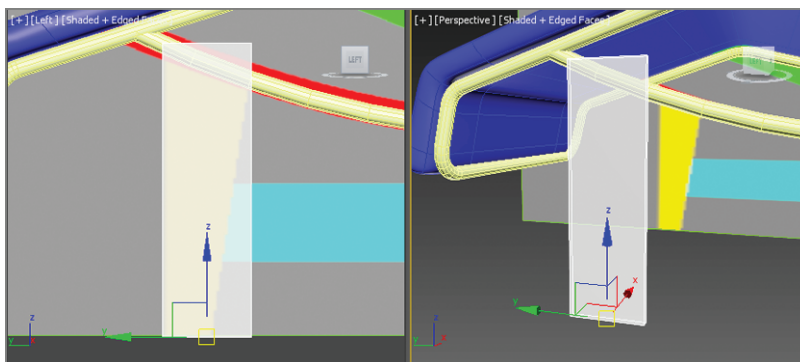

FIGURE 4.32 Create a box the size of the base leg in the image plane.
4. Activate See-Through mode (Alt+X) so you can see the image plane through the box primitive, and move the box so it is aligned with the lounge chair frame, as shown in Figure 4.32.